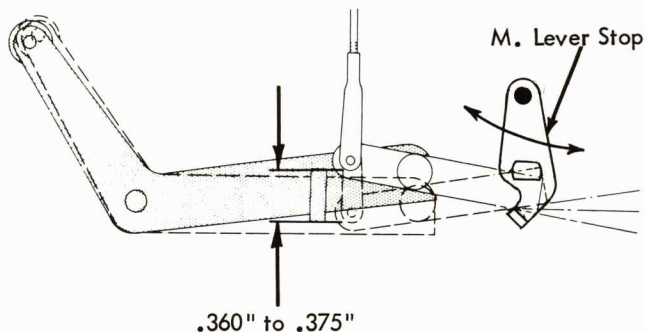

FIGURE 151. Multiplying Lever Stop (New Style)
2. Multiplying Lever Stop (Fig. 151) - Adjust the multiplying lever stop front or rear to produce .360" to .375" (approximately 3/8") motion to the index link when the carrier return/index cam is operated to its high point (platen removed).